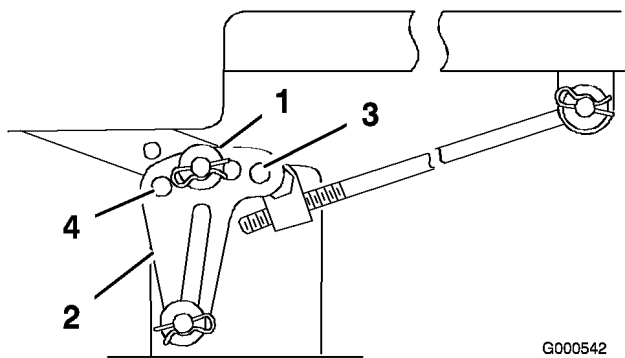
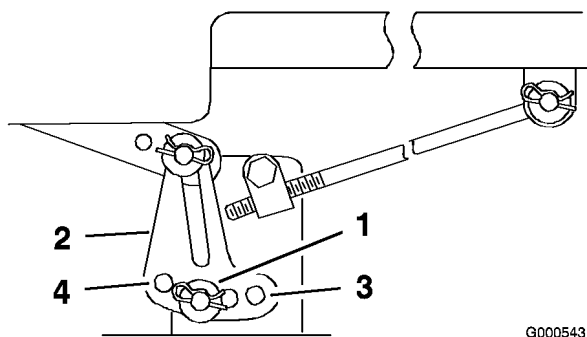

Figure 41
Figure 42
6. Remove the hairpin cotter and washer from the leveling bracket (Figure 41).
7. To level the blade(s), reposition the leveling bracket(s) in a different hole and install the washer and hairpin cotter. (Figure 41 and Figure 42). A front hole lowers the blade height and a rear hole raises its height. Adjust both sides as required.